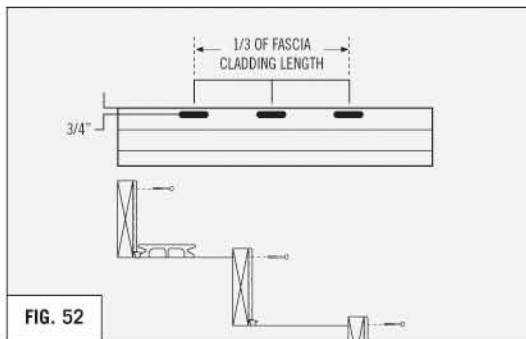

FIG. 52
- Pre-drill three holes near the top edge of the cladding as shown. (REFER TO FIG. 52)